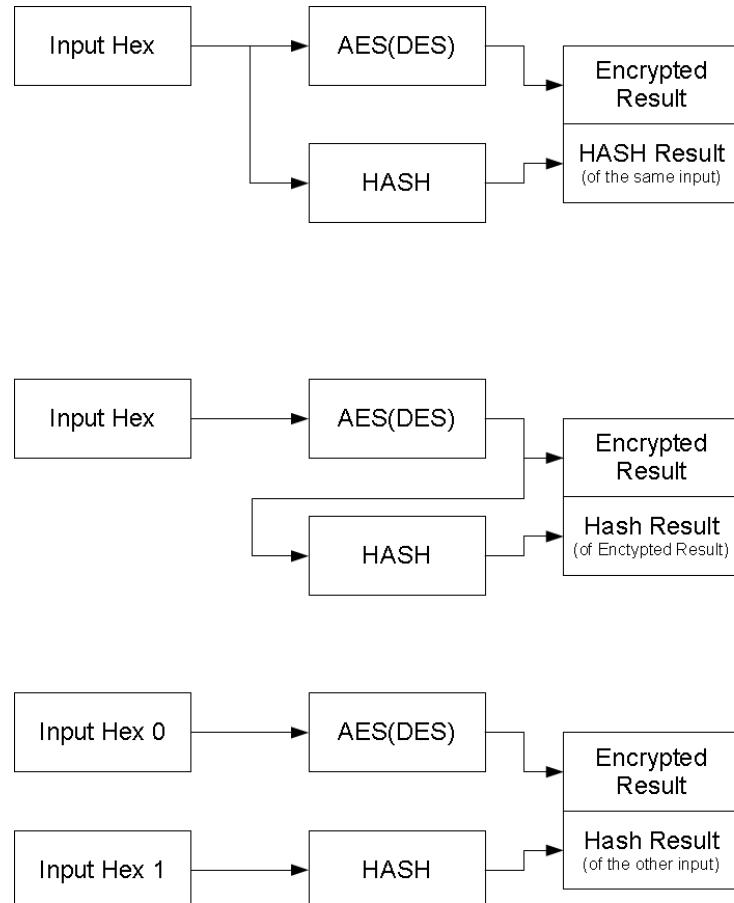

Figure 42-2. CRYPTO AES & HASH Operation Scenario
- Supports AES and HASH working at the same time (Refer Figure 42-2)